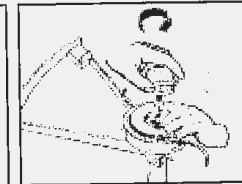

Fig. 9G
10. Keep the spring under tension by constantly pressing the reel in the housing and fix the screw clockwise. Now tighten the screw hand-tight (Fig. 9G).